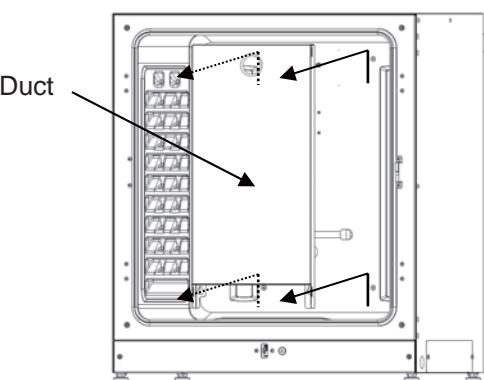

Fig. 5
6. Loosen the screws at the rear and lift out the duct (Fig. 5).